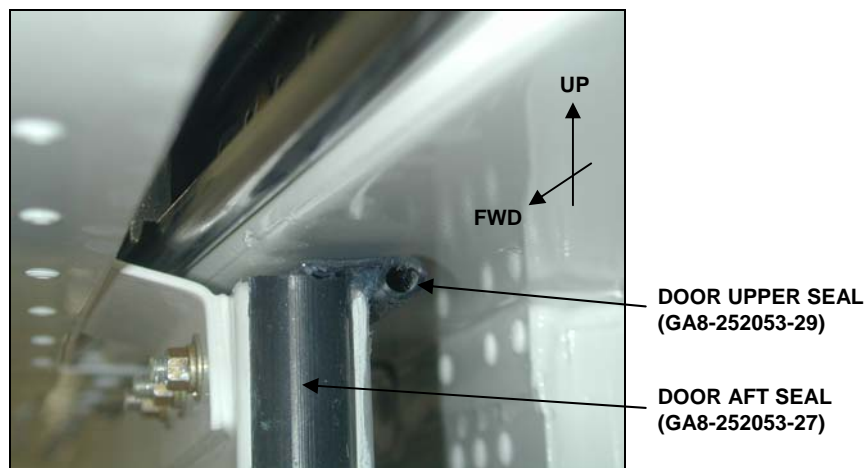

Figure 11: Installation of the new upper and aft rear cabin door seals.
17. Locate and install the aft door seal (P/N GA8-252053-27) along the aft edge of the door, ensuring the D section is flush against the outboard face of the door and the 3/32" diameter holes near the ends of the seal face inboard, using Dow Corning Silastic 747 Silicone RTV Adhesive/Sealant as the bonding agent, similar to the installation shown in Figure 11.
19. Locate and install the upper door seal (P/N GA8-252053-29) along the upper edge of the door starting at 1/4" forward past the forward vertical post to 5/16" past the aft vertical post, with the bulb part of the seal facing inboard and overhanging flush against the inboard edge of the top of the door and the 3/32" diameter holes near the ends of the seal facing down, using Dow Corning Silastic 747 Silicone RTV Adhesive/Sealant as the bonding agent, similar to the installation shown in Figure 11.